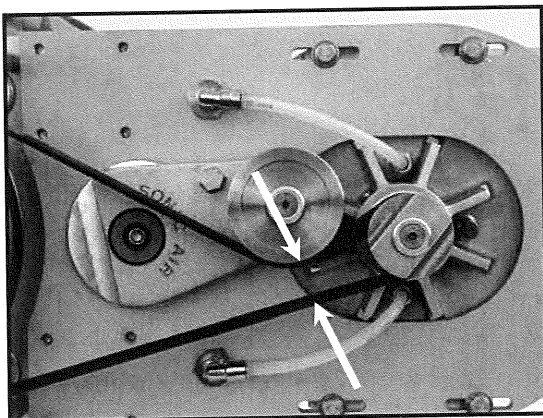

Figure 21 – Verify Belt Gap
10. Verify that the belt gap is approximately ¾ inch ±1/16 inch. (See Figure 21)